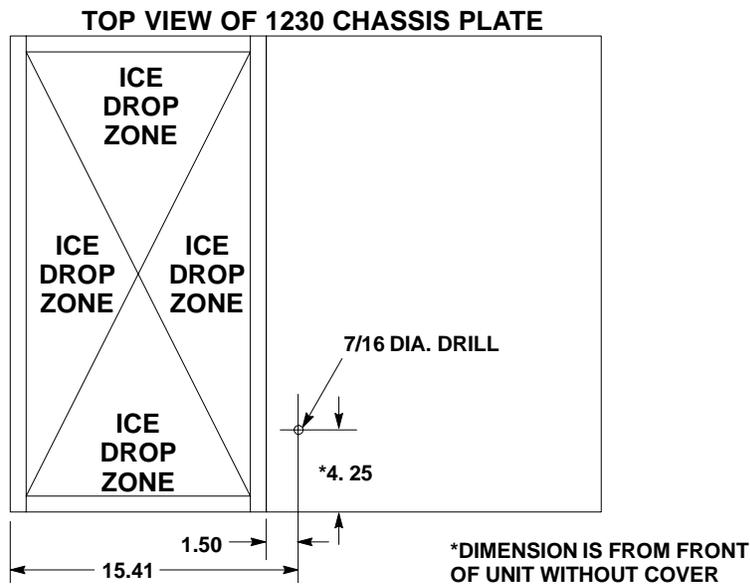

FIGURE 3
6. If there is not already a hole in the base of Ice Maker chassis, drill a 7/16" hole as indicated in FIGURE 3.